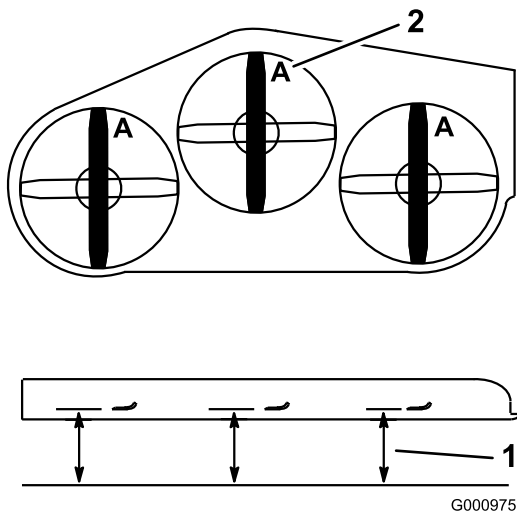

Figure 90
3. Rotate the blades until the ends face forward and backward (Figure 90).
4. Measure from a level surface to the cutting edge, position **A**, of the blades (Figure 90). Note this dimension.